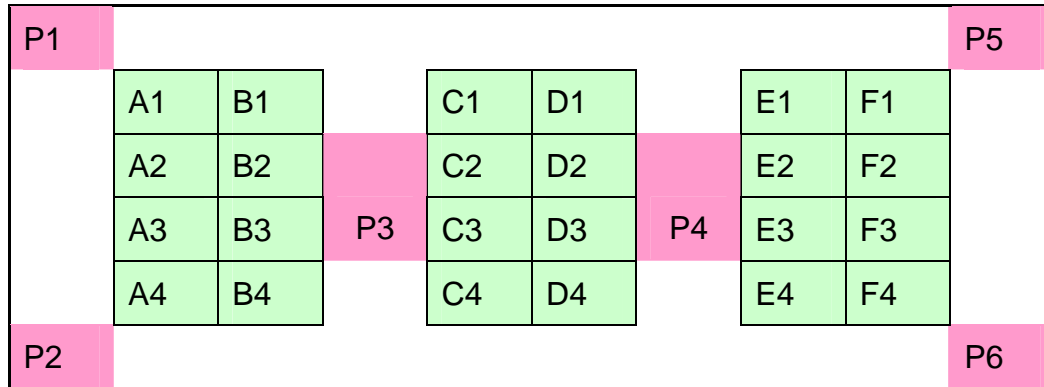

Fig. 1 Schematic diagram of cages (green color) and DO detection position (red color) in test tanks.
- 4) To make sure the DO distribution in test tanks are homogeneous, DO levels at 6 positions (Fig.1) will be detected each time (twice: morning and night).